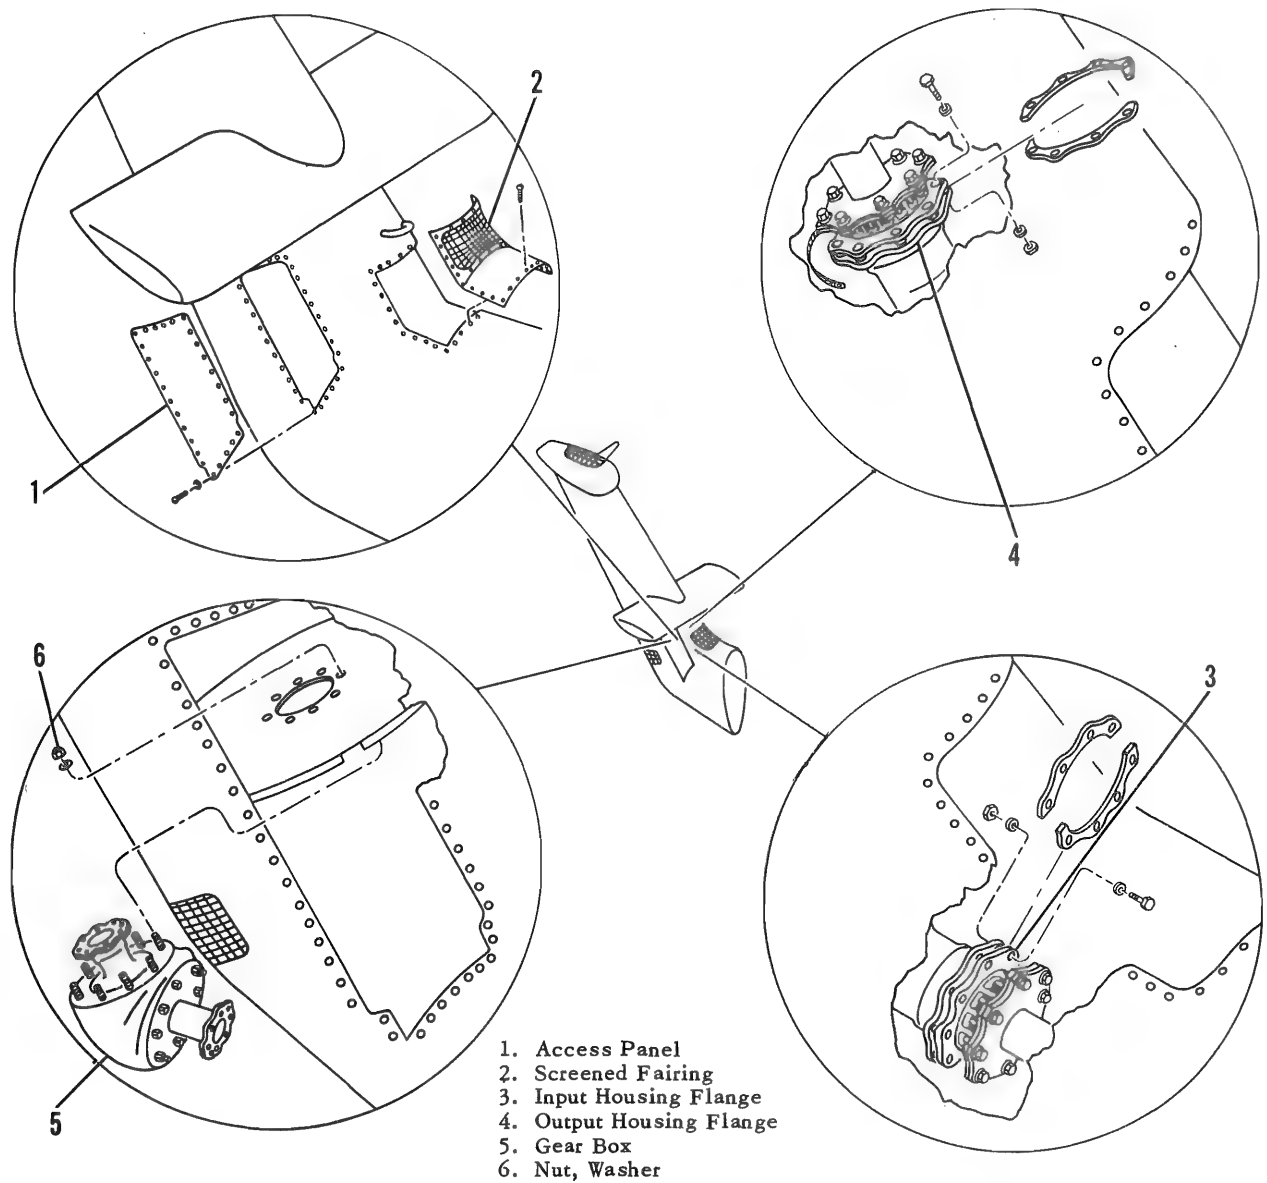

Figure 4-22. Intermediate Gear Box Removal
4-144. REMOVAL. (See figure 4-22.)
4-150. INSTALLATION. (See figure 4-22.)
a. Remove intermediate gear box access panel (1, figure 4-22), support bearing access panel (17, figure 4-20), and upper rubber coupling access panel (18), from left side of pylon.
b. Remove bolts, washers, nuts, and shims that secure lower rubber coupling to output housing flange (4, figure 4-22) of intermediate gear box (5).
- b. Insert required shims for a line-to-line fit between lower rubber coupling and output housing flange (4, figure 4-22) of intermediate gear box and install bolts, washers, and nuts. Tighten nuts to a torque of 50 to 55 inch-pounds.